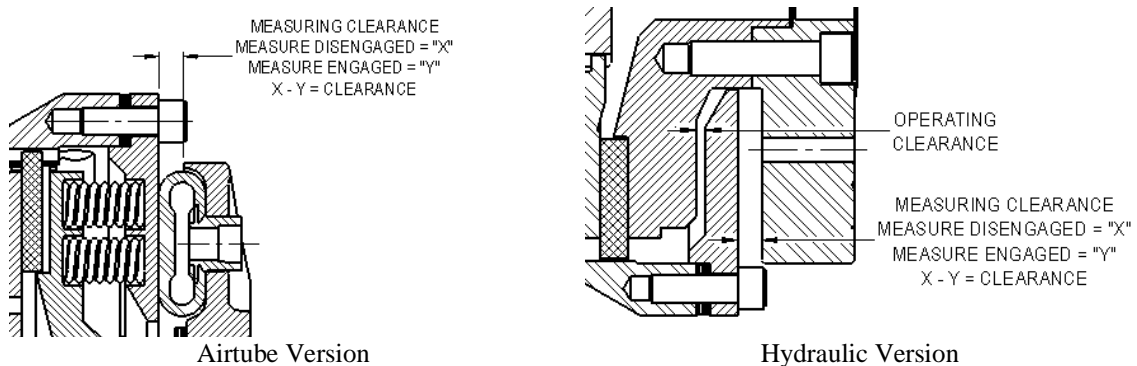

Figure 3
2. Slide hub (3) into correct position on shaft.
3. It is preferable that the hub (3) of the brake be axially restrained. This may be achieved by using a stepped shaft and an end plate, a taper key or a set screw fitted in a tapped hole in the hub (3).
4. If brake is to be mounted as an assembled unit, slide the unit over the hub (3) ensuring that the teeth on the center plate (2) are properly engaged in the teeth of the hub (3). This step is easily achieved by applying air to the brake so that the center plate (2) moves freely.
5. Insert mounting bolts in ring (1) and tighten. (See Pages 13 & 14 for torque values.) Connect air/hydraulic supply to brake.
7. Clearance can be checked by the following: (see FIGURE 3, page 12)
8. If clearance is incorrect, the removal or addition of shims (5) is required.
9. To modify shim thickness, unscrew all capscrews (14) by 2-3 turns only, then completely remove half of the capscrews so that half of the shim segments (5) may be removed. Add or remove shims, and replace capscrews. Repeat the procedure for the other half of shims (5). Tighten capscrews. (See Pages 13 & 14 for torque values.)
11. Slide ring (1) over hub (3), insert mounting bolts through ring (1) into mating surface and tighten bolts. (See Pages 13 & 14 for torque values.)
***Measure distance between actuator & spring plate while disengaged and then again while engaged. Difference equals operating clearance. (See Table 2 & Figure 3)